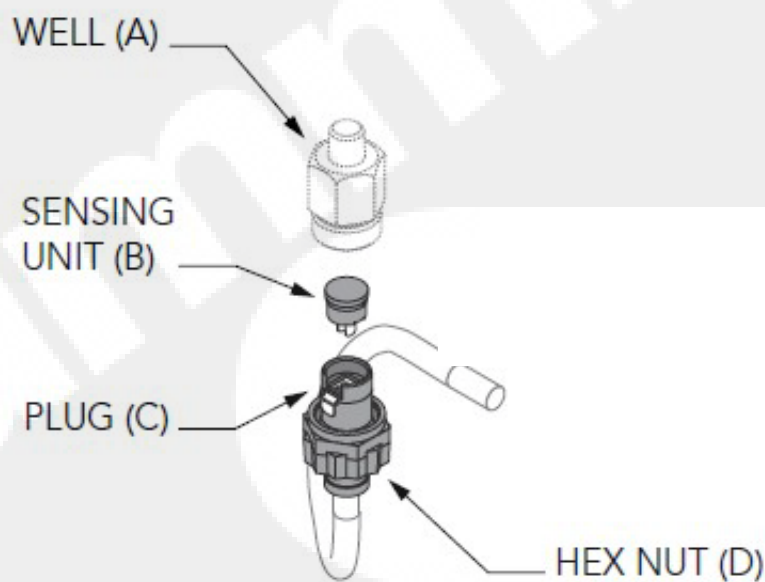

Figure 7-47 GenSet lube oil heater control thermostat sensing unit
6. As shown in Figure 7-47, replace the lube oil heater control thermostat sensing unit: